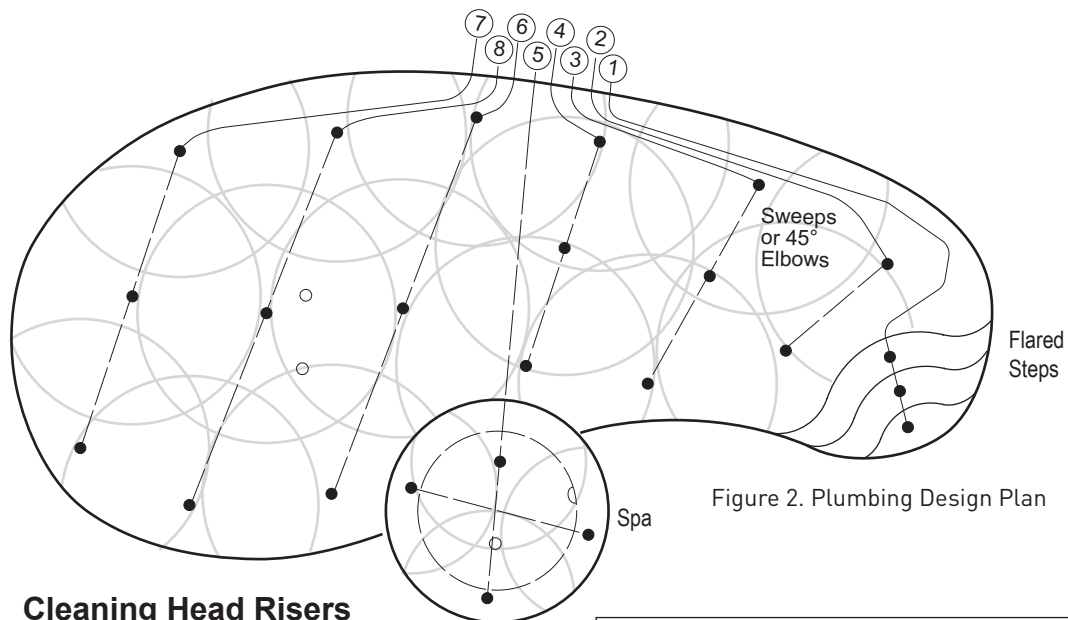

Figure 2. Plumbing Design Plan
**Follow the design plan to position and stake the cleaning head locations.** Each head has a designated nozzle that has a precise cleaning radius. Perimeter heads have a 1 ft. (0.3 m) overlap. Mark the cleaning radius around each stake to verify cleaning coverage (see Figure 2).